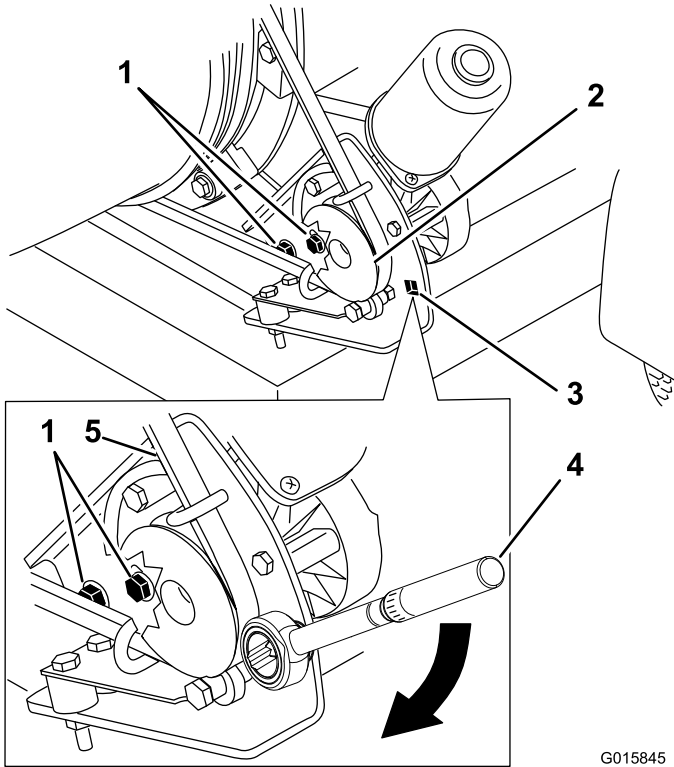

Figure 34
1. Loosen the bolts securing the pulley mounting bracket to the blower frame (Figure 34).
2. Position a torque wrench into the pulley mounting bracket (Figure 34).
3. Pivot the pulley mounting bracket away from the blower nozzle until the torque wrench reads 23 to 26.0 N·m (200 to 230 in-lb) (Figure 34).